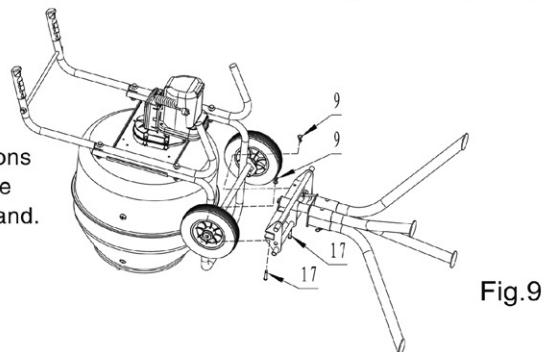

Fig.9
With the drum face down on the floor, locate the completed stand onto the axle, and secure with the two pins (17) and R clips (9) provided. (Fig.9)